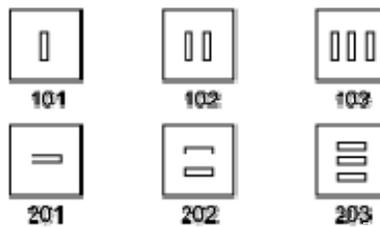

Figure 9-3. Helicopter Window Marking.
4. **Aircraft Coordination.** For a well-planned extract, the squadron should mark aircraft. *See Figure 9-3.* Crew chiefs should be briefed on the extract plan, so they can coordinate changes with stick leaders in the extract zone.